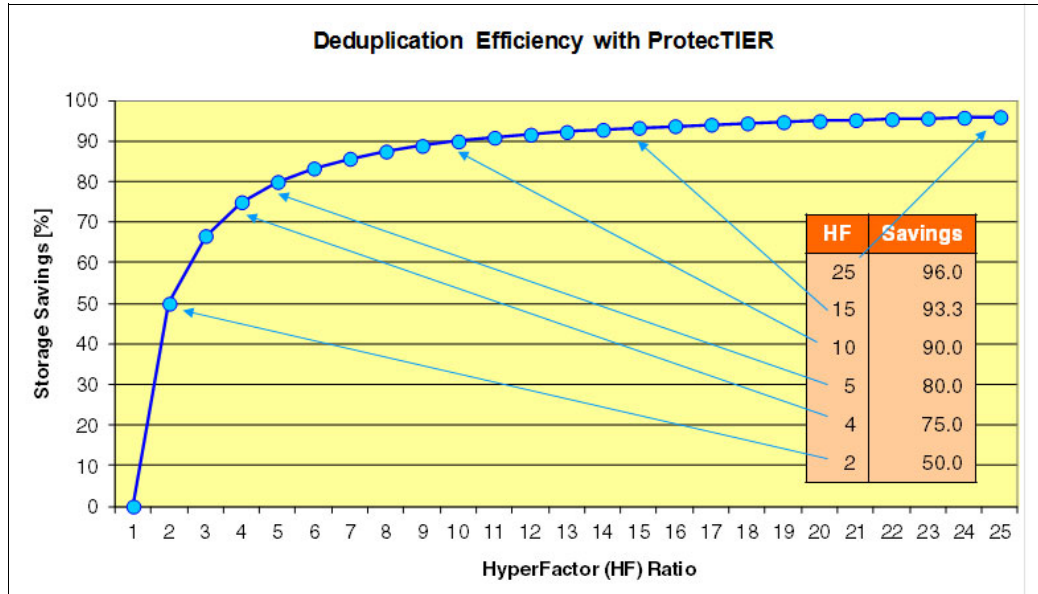

Figure 1-1 Storage savings with ProtecTIER HyperFactor
Figure 1-1 on page 10 shows the relationship between HyperFactor (HF) processing and the respective storage savings.